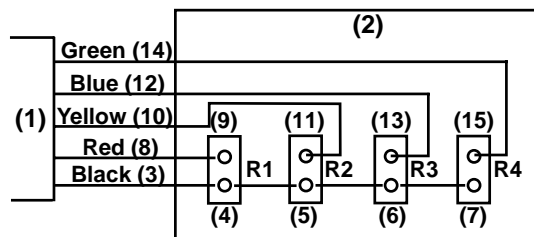

Fig. 13. Four line control.
2. Wiring the *interface cable* (1) to the HPLC (2) with 4 line *BCD* control (see Figure 13):